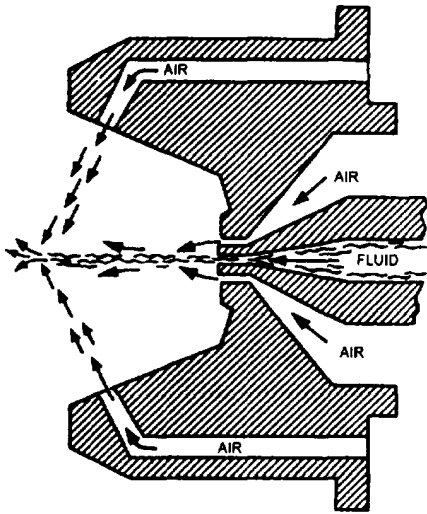

Figure 1-15.—External-mix air cap.
- **External-mix gun:** In an external-mix gun, the air and the paint are mixed outside, in front of the external-mix air cap. This type of gun requires high air pressure; thus, it uses more cubic feet of air per minute than an internal-mix gun. Atomization of the paint is extremely fine and the size of the spray pattern can be controlled. There is no wear on the nozzle. By the use of different nozzles, an external-mix gun works with both suction and pressure feed systems. See figure 1-15.